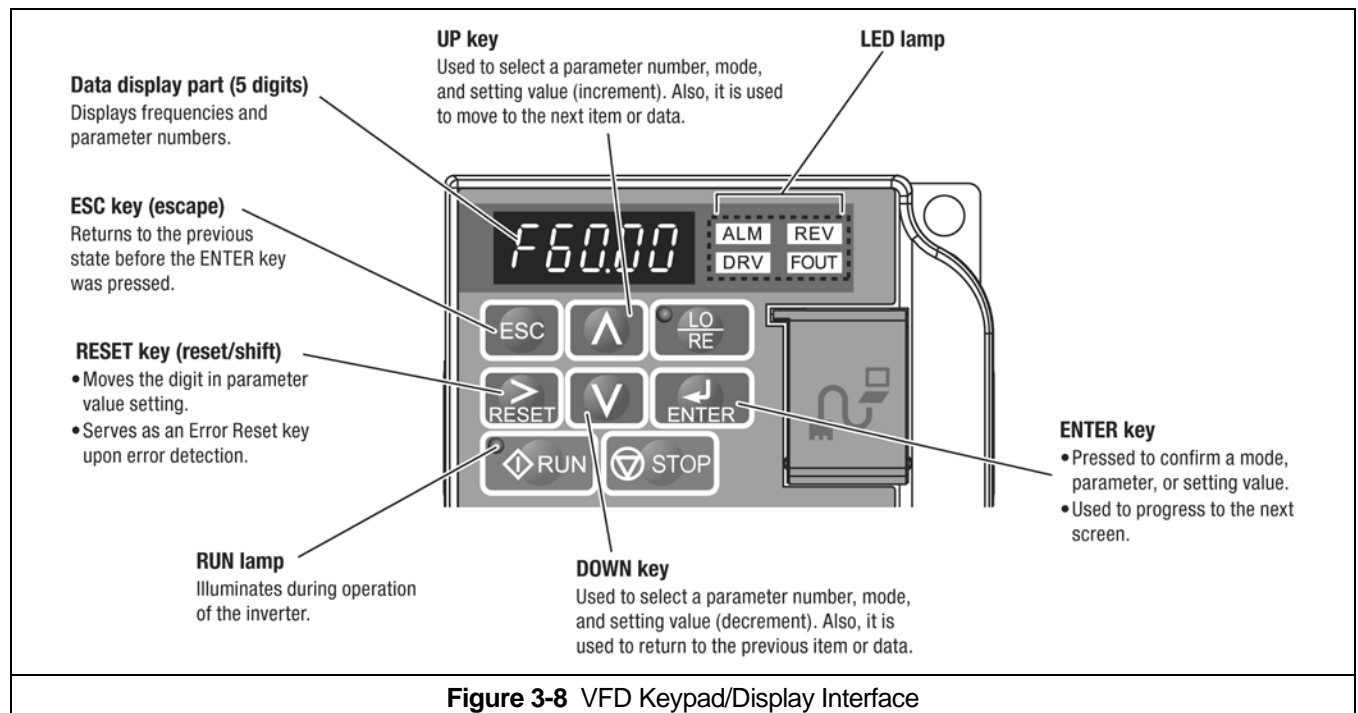

**Figure 3-7** Pendant and Power Supply Cable Connections
- Refer to **Figure 3-7**.
- Insert pendant cable (as shown in **Figure 3-7** with Holder A and Cable Packing) through Holder B which is installed in hoist body.
- Insert the Power Supply Cable (as shown in **Figure 3-7** with Holder A and Cable Packing) through Holder B which is installed in the hoist body.
- For a manual trolley the guide wire should be positioned slightly outside the hoist's Cable Support as shown in **Figure 3-7**.